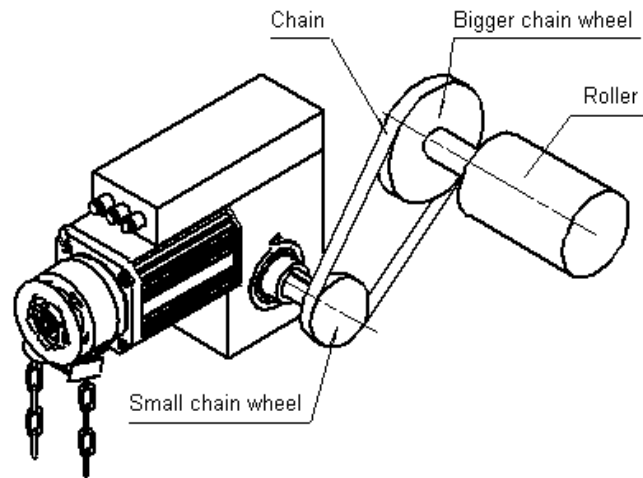

Fig.3
(2) Indirect installing (see Fig.3)